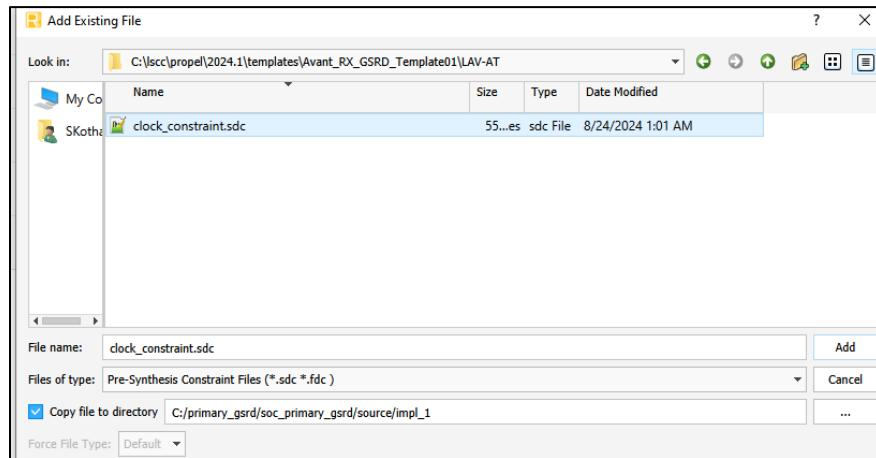

Figure 8.50. Select `clock_constraint.sdc` File
6. Select the `clock_constraint.sdc` and ensure that the *Copy File to Directory* is enabled as shown in Figure 8.50.